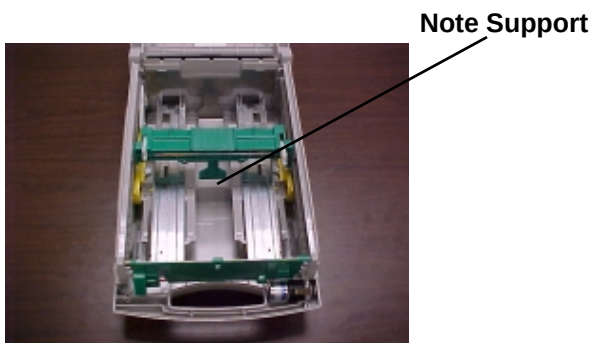
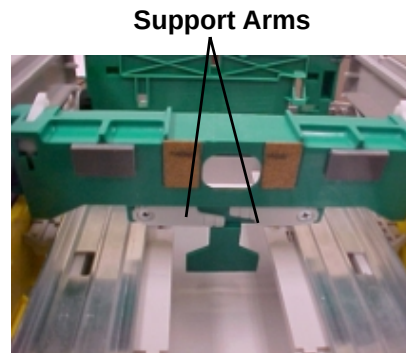

Figure 1
Figure 2
2. Refer to Figure 1. Identify the note support assembly. If the note support arms are made of metal, they must be removed before the length adjustment can be performed. If the note support arms are made of plastic, ensure they are in the “Not In Use” position (folded in as shown in Figure 2).